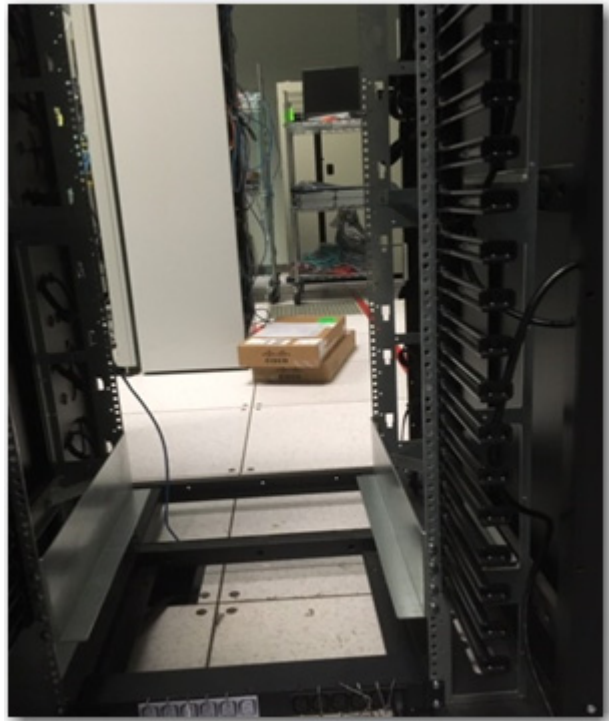

Figure 64 Lower cable tray
- ◆ You must remove the lower air baffles as seen in Figure 64 on page 89